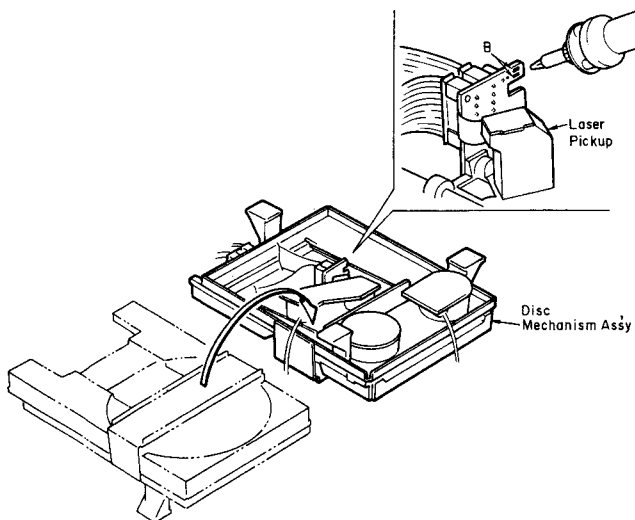

Fig. 2.5.1
Refer to Figs. 2.5.1 and 2.5.2.
- (1) Remove the Disc Mechanism Ass'y referring to item 2.4. (Do not forget shorting the lands "A" on the Sub P.C.B. Ass'y.)
- (2) Turn over the Disc Mechanism Ass'y and short the lands "B" on the P.C.B. of the Laser Pickup. See Fig. 2.5.1.
- (2) Turn over the Disc Mechanism Ass'y and remove soldering of the lands B on the P.C.B. of the Laser Pickup. See Fig. 2.5.1.